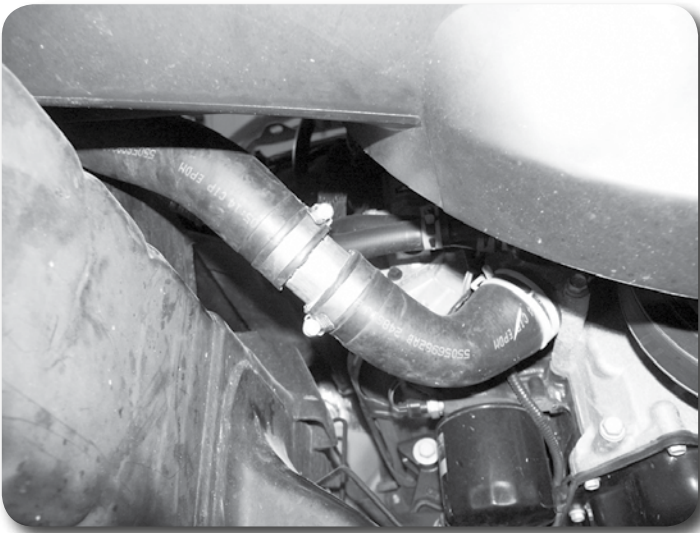

Figure 14
36. Locate the lower radiator hose and cut the hose in half at the middle of the hose. Install the provided 1-3/4" OD x 4" long steel hose extension in both ends of the hose and fasten with the provided hose clamps **Figure 14**. Make sure there is adequate extension engagement in both sections of hose.